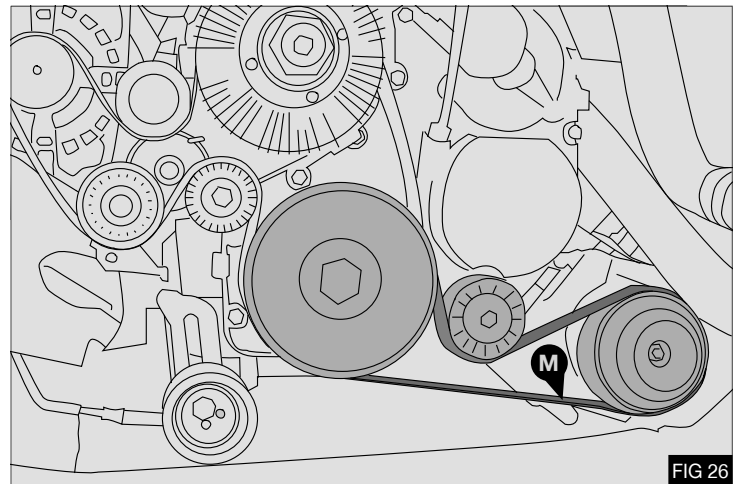

FIG 26
- Fit original air conditioning compressor drive belt (M) - Fig 26